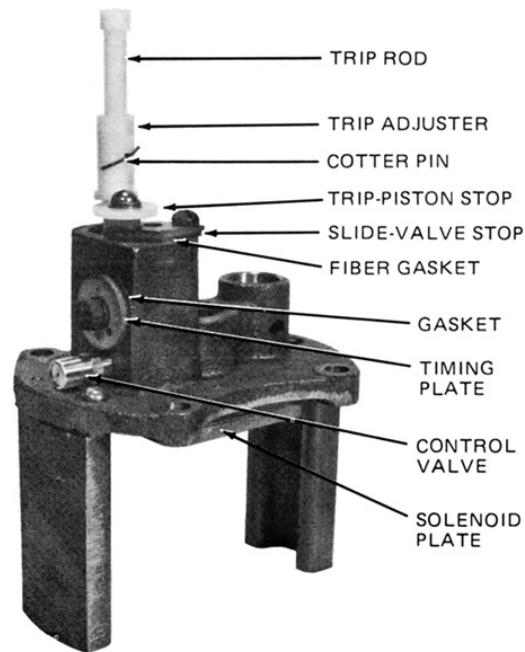

Figure 15. Solenoid frame and hydraulic mechanism assembly
4. Remove solenoid coil, upper solenoid gasket, and impact washer shown in Figure 15.